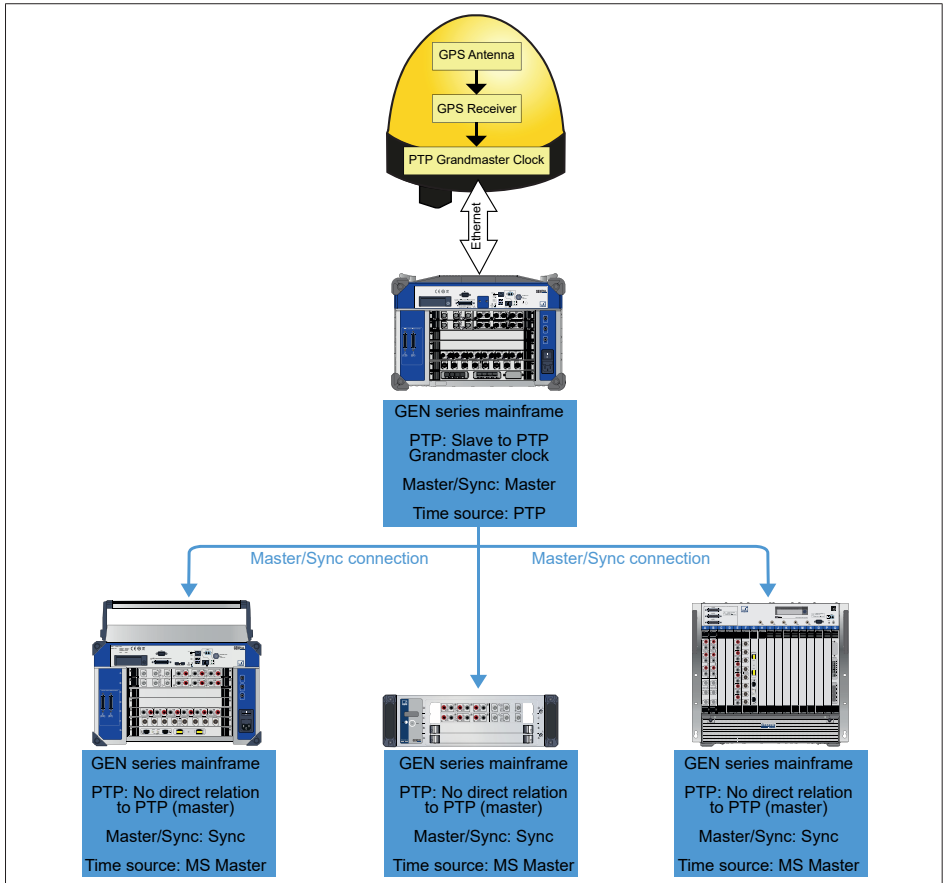

Fig. 15.23 GPS Receiver with Master/Sync connected Sync mainframes
- G002B: GPS Receiver with Master/Sync connected Sync mainframes (see Fig. 15.23)